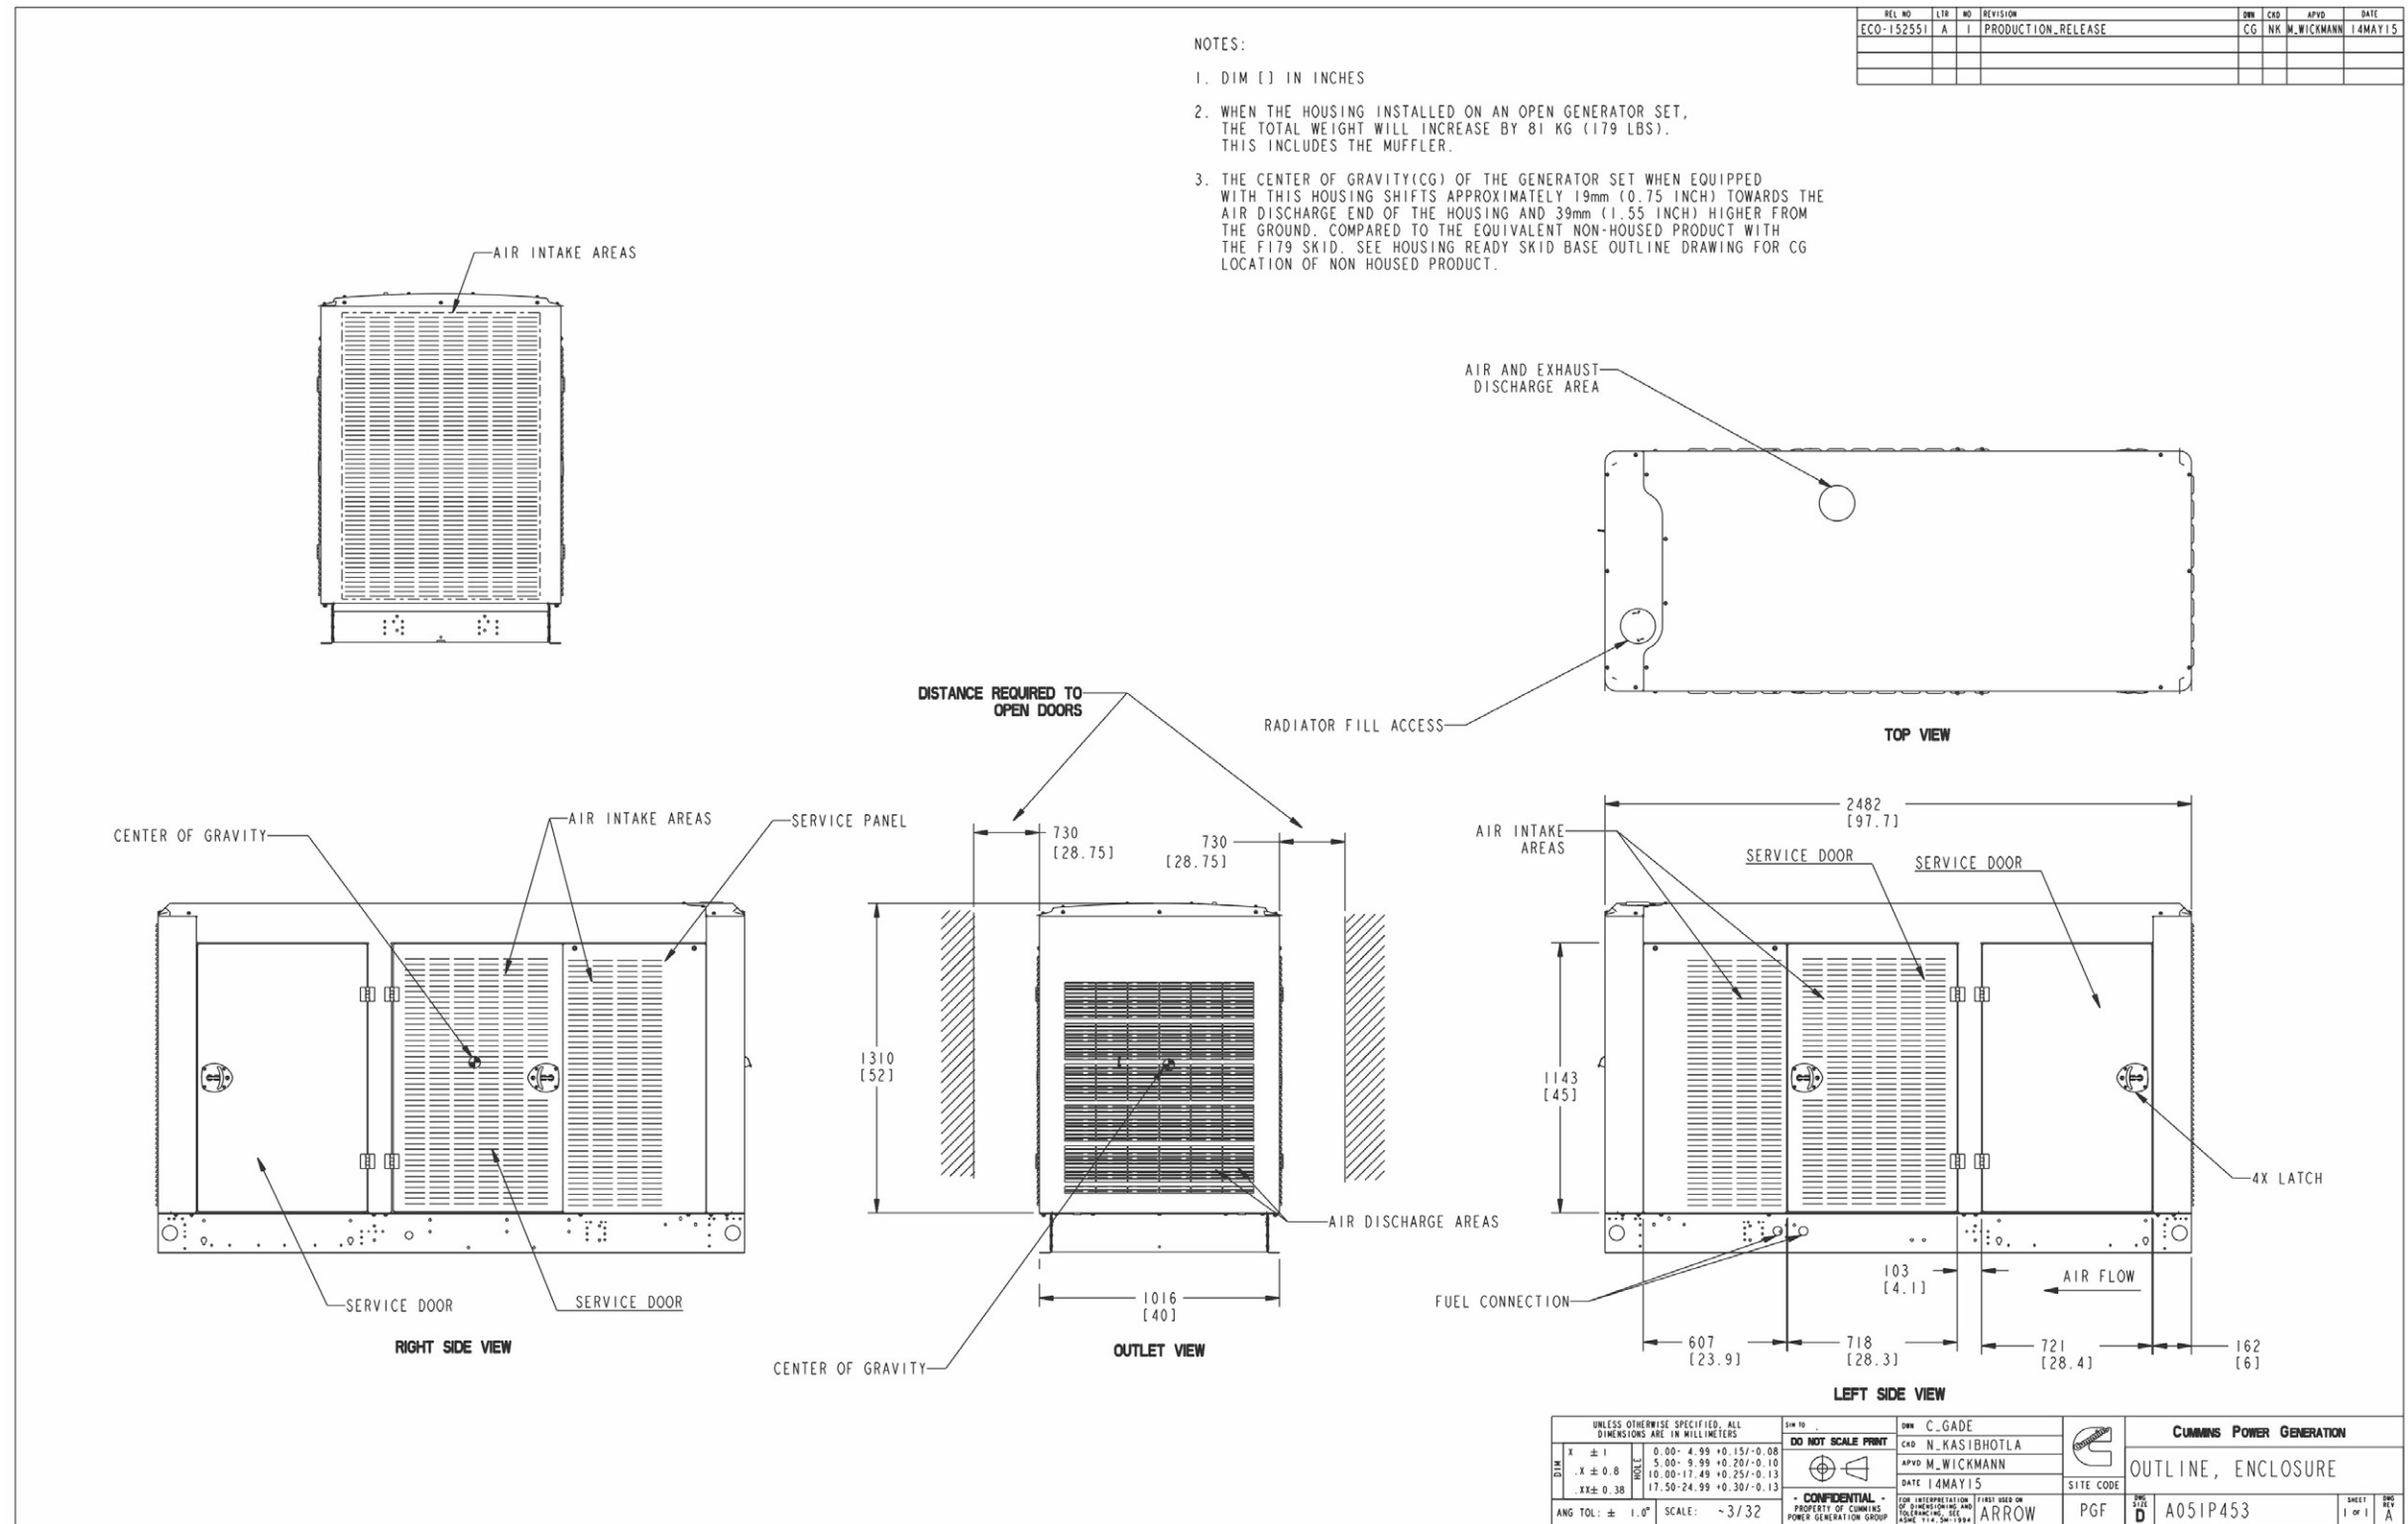

FIGURE 42. ENCLOSURE OUTLINE, WEATHER (SHEET 1 OF 1)
- Figure 42. Enclosure Outline, Weather (Sheet 1 of 1) 114